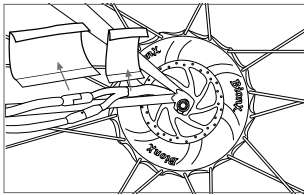

Fig. 1
- Remove the neoprene covers (Fig. 1)